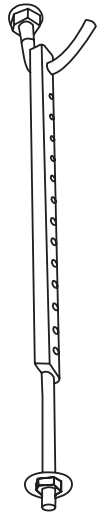

**Fig. 4.3**
1. Use the included paper template to cut a rectangular hole in the ceiling, leaving at least 1m (39") on all sides. The cut hole size should be 4cm(1.6") larger than the body size(See Fig. 4.3). Be sure to mark the areas where ceiling hook holes will be drilled.